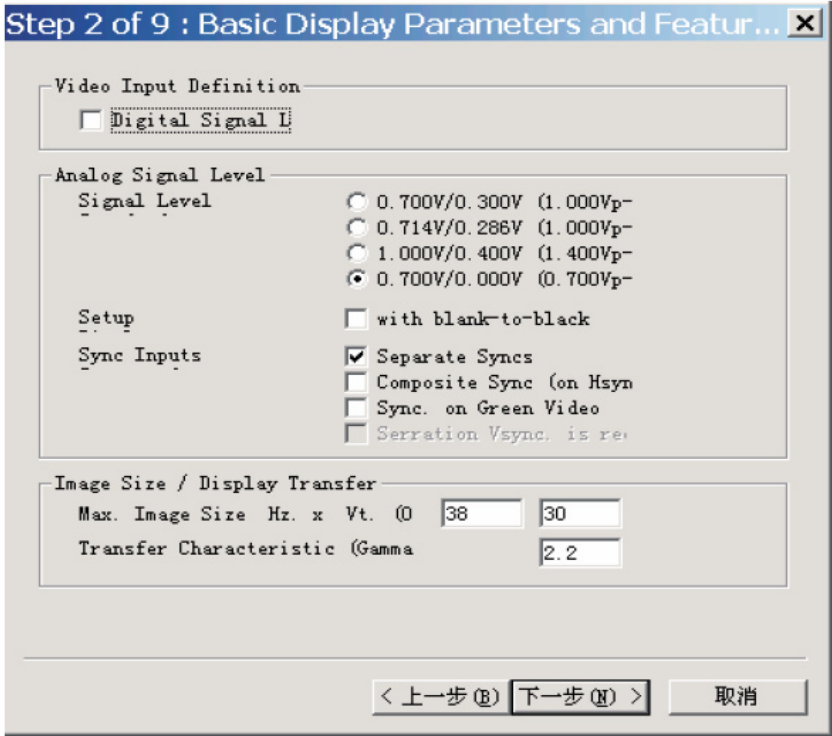

Fig. 15
1. Click Next , bring up Fig. 15.